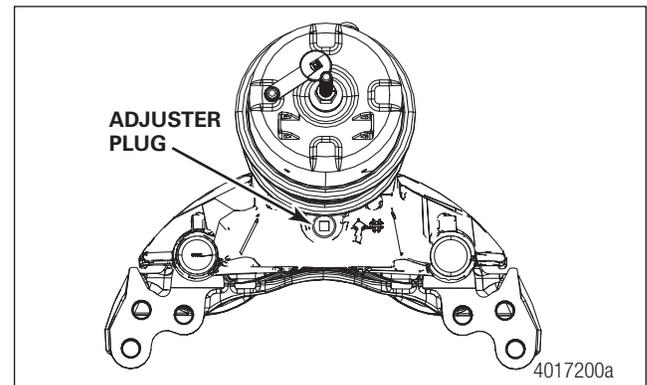

Fig. 6.1 Adjuster Plug
STEP 2 - Remove any loose dirt or debris from the plug area. Using a 3/8" drive ratchet, remove the adjuster plug. If needed, a 3/8" drive extension can be used to clear the air chamber. Figure 6.1.